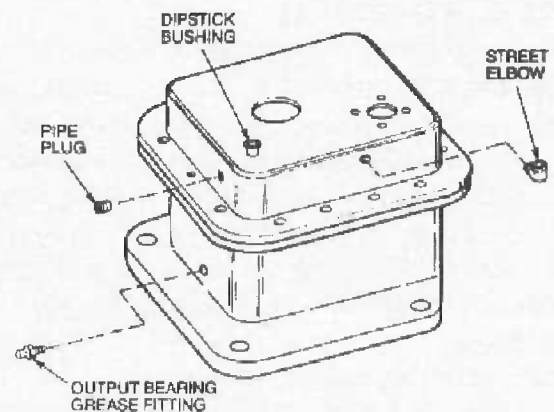

Figure 31 — Pipe plug and pipe fitting locations
3. Coat all pipe-plugs and pipe-fittings with Permatex #3 or equivalent, and install as shown in Fig. 31 above.